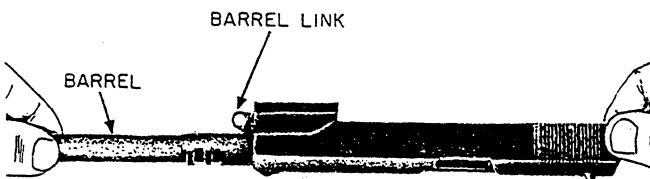
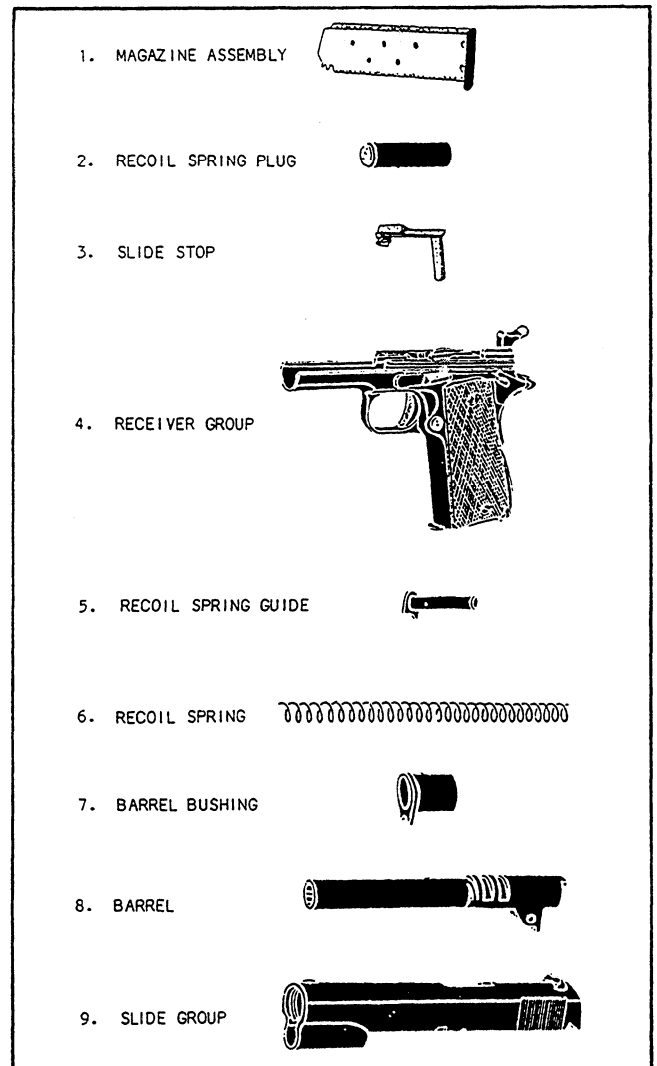

Figure 3-36.—Barrel removal from the slide.
Figure 3-37.—Parts of the pistol in order of field-stripping.
7. Push the barrel link forward and remove the barrel from the front end of the slide, as shown in figure 3-36. This completes the field-stripping. Observe figure 3-37. It shows the parts of the pistol in the order of the field-stripping just completed.
1. BARREL. Push the barrel link forward on the barrel and replace the barrel, chamber end first, in the slide. (See fig. 3-36.)